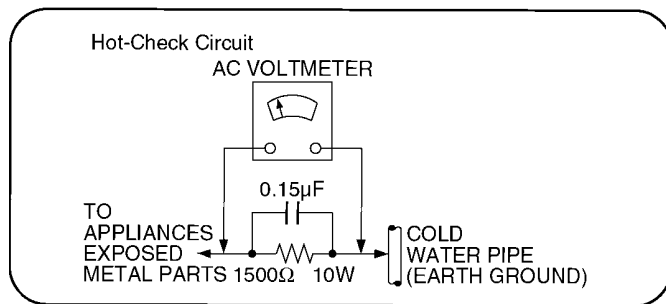

Figure 1
2.1.2. Leakage Current Hot Check (See Figure 1.)
2. Connect a $1.5\text{k}\Omega$, 10 watts resistor, in parallel with a $0.15\mu\text{F}$ capacitors, between each exposed metallic part on the set and a good earth ground such as a water pipe, as shown in Figure 1.